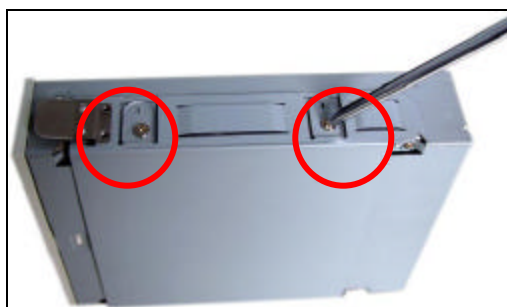

Figure 3.6.2
- ii. Insert the CD-ROM into its rack, making sure to align the screw holes on the device with the rear set of holes on the rack, and screw it in position, as shown in [Figure 3.6.2].